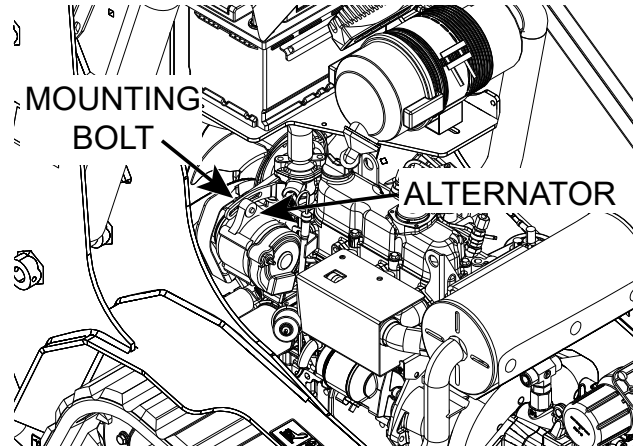

Figure 5-4. Alternator Location
1. Loosen the alternator-mounting bolt. See Figure 5-4.